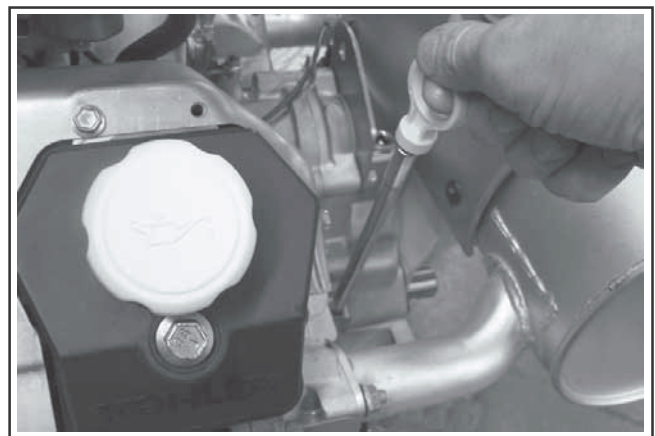

Figure 10-113. Reinstall the Dipstick.
5. Add oil to bring the level up to the "F" mark. Reinstall the dipstick and oil fill cap. See Figure 10-113.